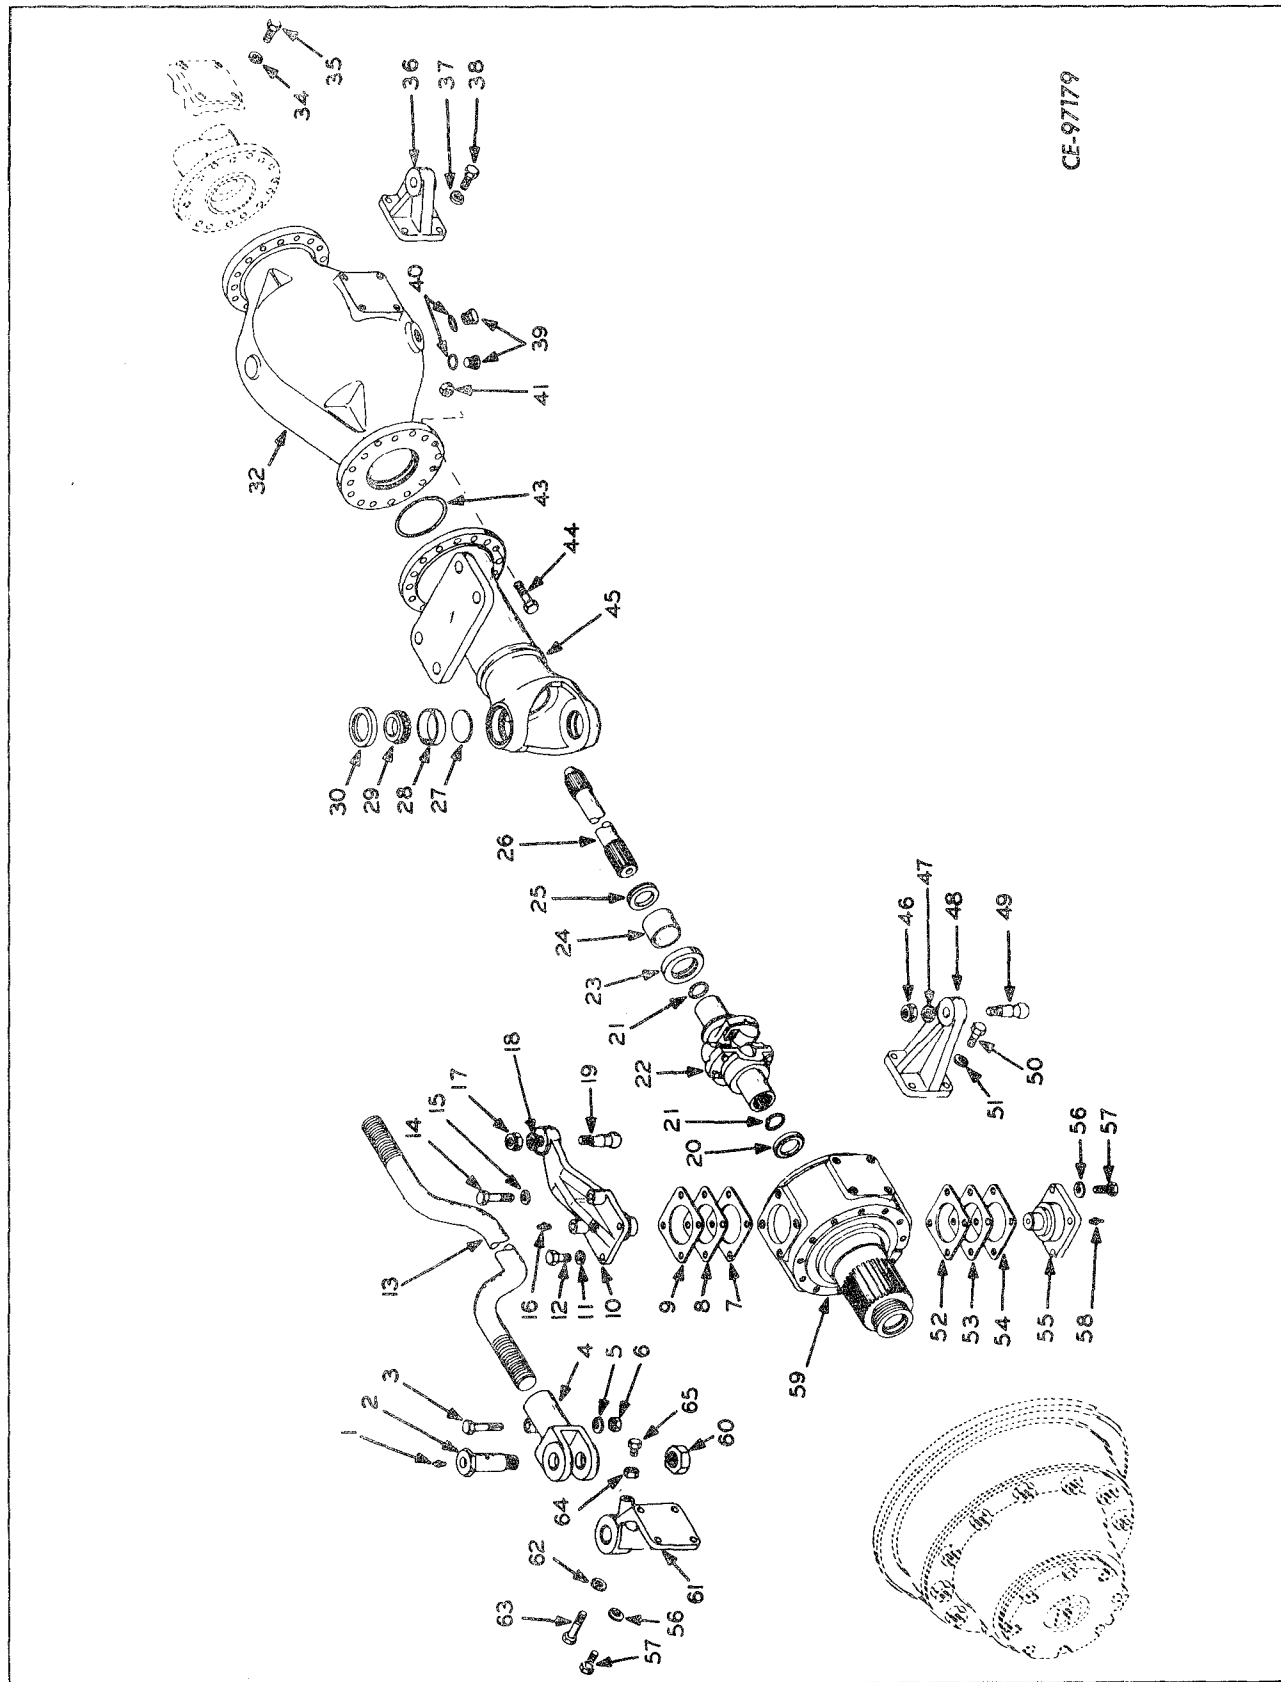

Figure 7-2
Lubricate the upper and lower trunnion bushings in the steering knuckle assemblies (16-58, Fig. 7-2) after each 10 hours of operation.
Legend for Figure 7-2
Remove sun gear shaft (20, Fig. 7-1) with a quick jerking motion. Steering arms (48, Fig. 7-2) need not be removed unless their replacement is required. Inspect tie rod arm bushings. If bushing is worn, replace arm assembly (61, Fig. 7-2).
Remove cap screws that secure the steering arm (10, Fig. 7-2) or upper steering bearing cap and remove cap and shim pack (7, 8, 9). Tie shim pack together and tag for correct location during assembly.
Remove lock wire and cap screws (57, Fig. 7-2) that secure lower steering bearing cap (55) to steering knuckle (59). Remove bearing cap and shim pack (52, 53, 54). Tie shim pack together and tag for correct location during assembly (45). Remove steering knuckle (59) from axle assembly. Remove and discard axle shaft seal (21, Fig. 7-1). Remove washer (20, Fig. 7-2) from knuckle inner bore.
ASSEMBLY" for universal overhaul information. Remove and discard shaft seal (23, Fig. 7-2). Remove and discard seals (30) from steering bearing bores. Inspect bushings (24) in shaft bore and those in steering bearing bores to determine if removal and replacement is required.
Drain differential housing. Rotate housing until differential yoke is vertical. Remove cap screws and lock washers that attach differential assembly to axle bowl (32, Fig. 7-2). Using a suitable hoist, pull differential assembly from housing.
If steering cylinder anchor (39, Fig. 7-2) was removed from rear of differential housing bowl, threads of retaining cap screws must be coated with Mar-Seal or equivalent sealant before assembling.
If bushings (24, Fig. 7-2) were removed from axle bore or outer races (28) from steering bearing bores press new bushings into place. Be sure flat washer (25) is installed in axle shaft bore before pressing bushing (24) in place. In addition, grease retainer discs (27) must be installed in steering bearing bores prior to installing outer races (28).
Coat O.D. of a new shaft seal (23, Fig. 7-2) with Mar-Seal or equivalent sealant and install in axle shaft bore. In a similar manner coat O.D. of two new steering seals (30) and install them in steering bearing bores. Lip of shaft seal must face in toward differential. Lips of steering seals must face each other.
Install axle shaft (26, Fig. 7-2) and universal assembly (22) in axle housing. Splines on shaft must engage splines in differential side gear.
Install washer (20, Fig. 7-2) in knuckle bearing bore; retain with grease. Position knuckle (59) on axle housing (45) and install lower steering bearing cap assembly (55, Fig. 7-2) and its corresponding shim pack (52, 53, 54). Snug up cap screws (57) but do not tighten at this time.
Install the steering arm (10, Fig. 7-2) or upper steering bearing cap and its corresponding shim pack (7, 8, 9). Snug up retaining cap screws. Swing knuckle from side to side to be sure no bind is present. If assembly swings freely tighten cap screws (12, 57) in upper and lower bearing caps to recommended torque (refer to "SPECIAL TORQUES").